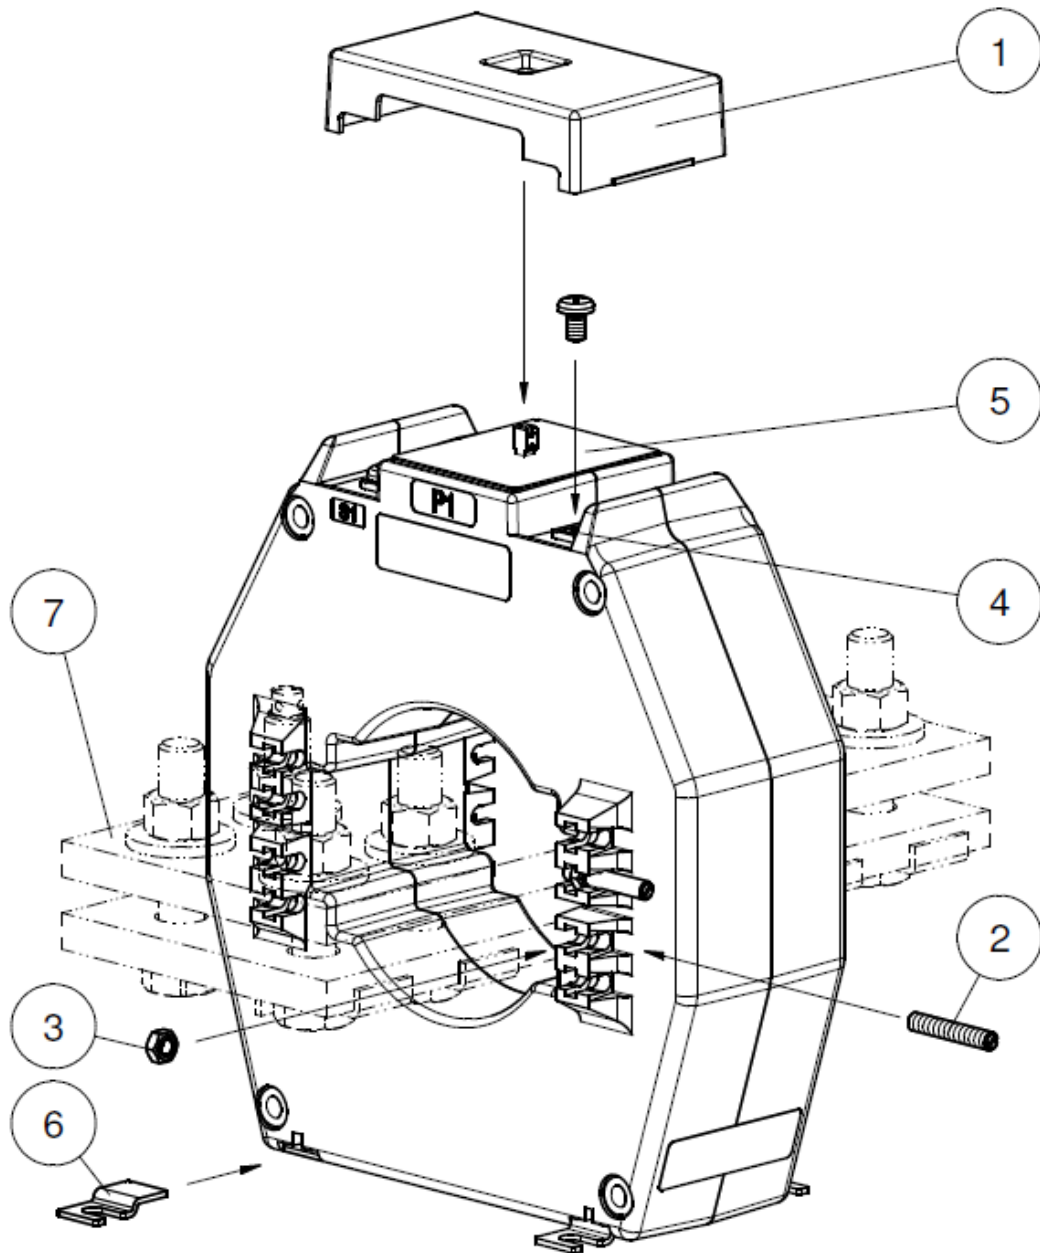

Figure 2.34: LMG-Z742 Drawing 3D
Description of Figure 2.34:
- 2 Secondary terminals, max. tightening torque see Figure 2.34
- 5 Primary conductor fixture, max. tightening torque see Figure 2.34